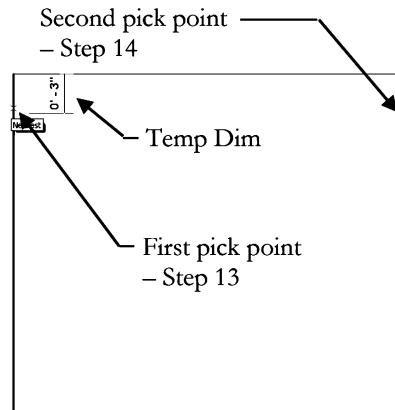

FIGURE 4-2.4 Drawing a line
13. Select the **Detail Line** tool and then pick a point approximately 3" down from the upper-left corner; a temporary dimension will be displayed before you click your mouse button (Figure 4-2.4).
14. Complete the horizontal line by picking a point perpendicular to the vertical line on the right (Figure 4-2.4).